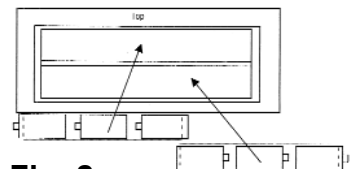

Fig. 2
- 3.1.7 Insert six "D" type dry batteries. Refer to Fig. 2.